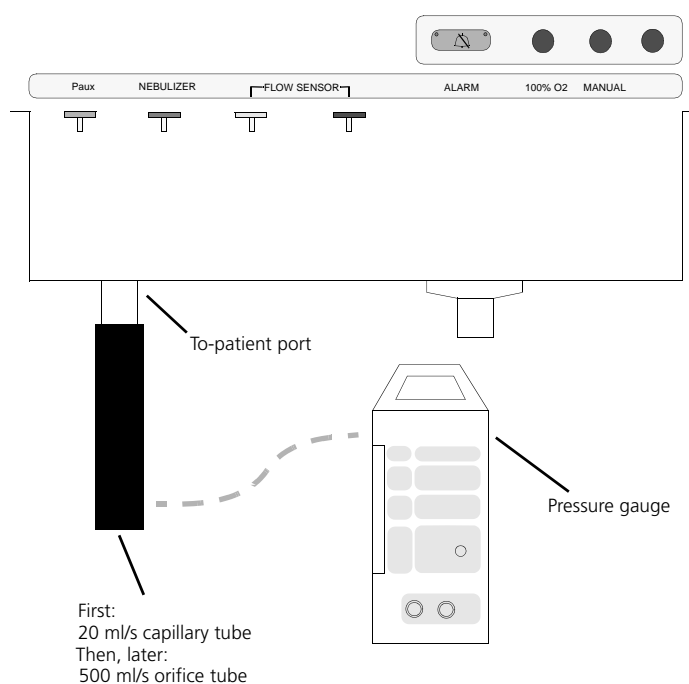

Figure 10-36. Setup for the inspiratory-valve air-delivery check
1. Connect the 20 ml/s capillary tube and the pressure gauge as shown in Figure 10-36.